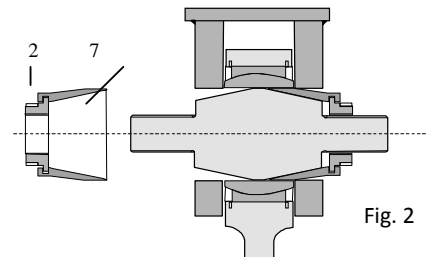

Fig. 2
- 4.1 Mount the inner cone (7) and tighten nut (2) on both side. Use high torch tools and tighten until specified torque. Tighten alternately on both sides to avoid the bolt (6) moving sideways. To prevent further expansion of the inner cone when tightening the outer cone, please remember: **When reached torque, turn the nut un-clock-wise exactly one turn.** The bolt is now locked to the midle section (see Fig.2).